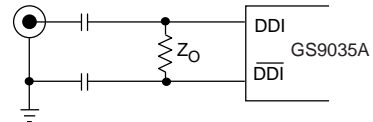

Fig. 21 Recommended Interface for Single-Ended Driver
Figure 21 shows the recommended interface when the GS9035A is driven single-endedly. In this case, the input must be AC-coupled and a matching resistor (ZO) must be used.